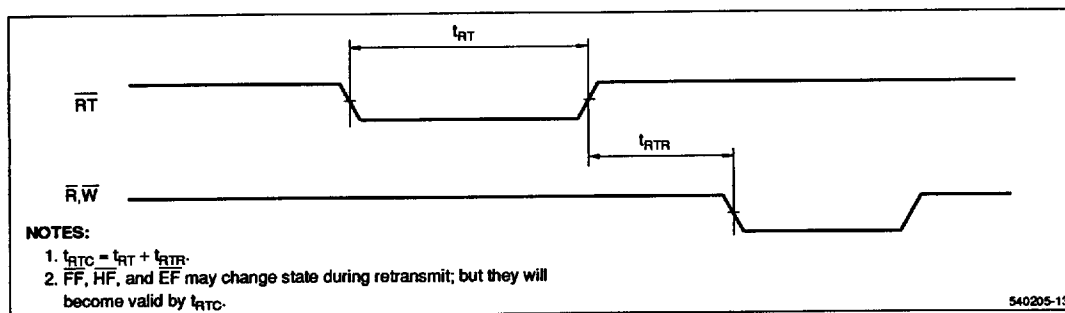

Figure 18. Retransmit Timing
5. See also Note 2, Figure 18.